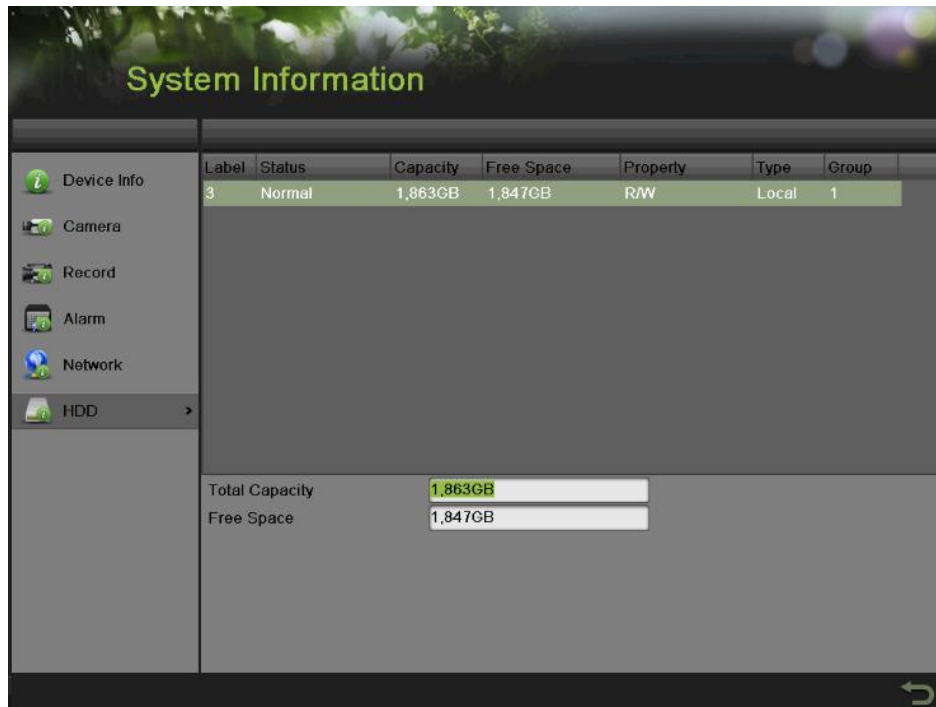

Figure 50 HDD Information Menu
6. Select the HDD tab to enter the HDD Information menu to view the HDD status, free space, capacity, etc., as shown in Figure 50.